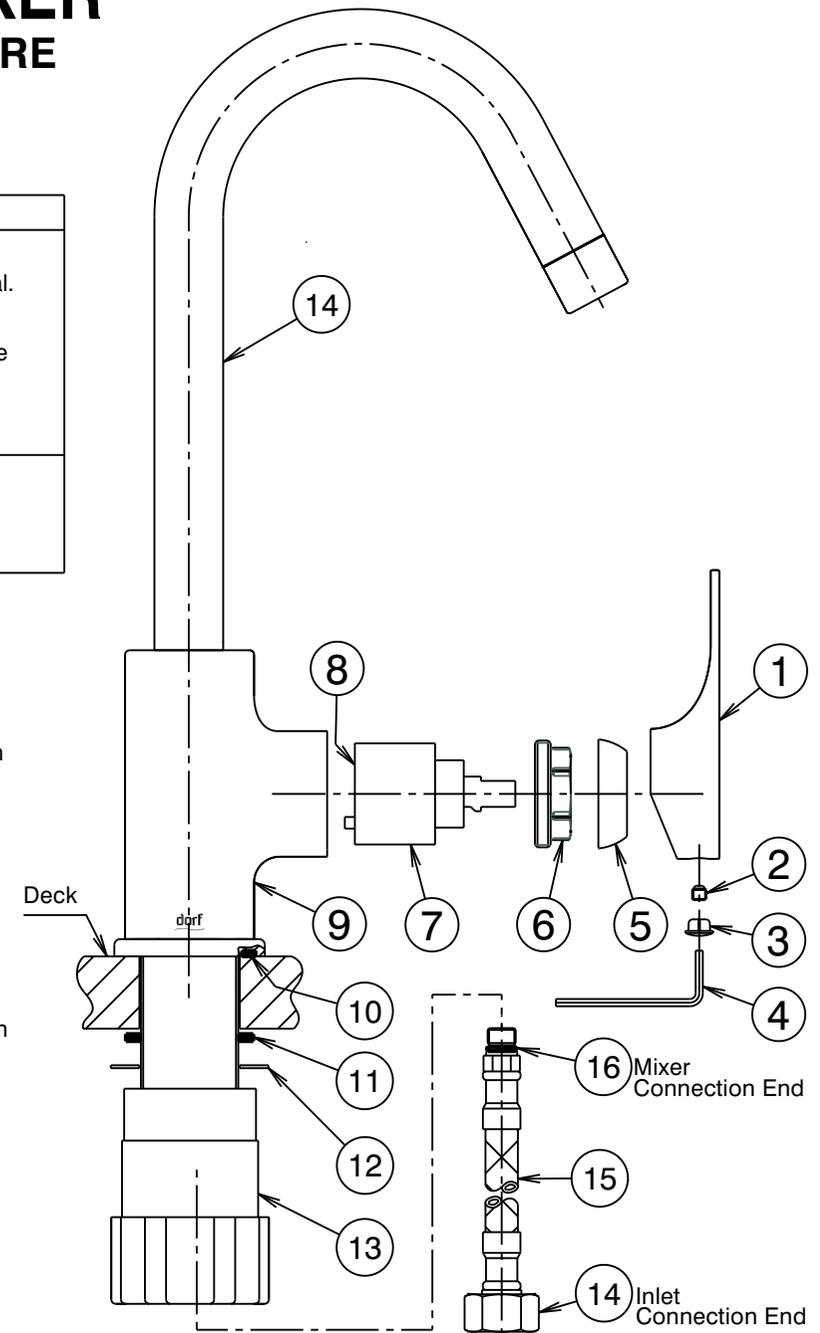

Fig.1
- 1) Ensure seal (10) is installed into groove in base of body (9).
- 2) *Flexible Tail Mixer Connections:* Apply suitable lubricant to 'O' rings (16). Fit flexible tail (15) (with red indication) into hole marked with a Red Dot in underside of mixer body (9). Hand tighten the tail, ensuring the 'O' ring (16) has fully entered the sealing bore to provide a watertight joint. Fit other flexible tail (with blue indication) into remaining hole in a similar manner.
- 3) Insert the inlet connection end (14) of each flexible tail (15) through the hole in the deck. Insert threaded tail of mixer (9) into deck hole, fit rubber washer (11), followed by metal washer (12), over the threaded tail of the mixer (9) as shown (Fig. 1). Screw on nut (13) and tighten firmly by hand to secure the mixer to the deck.
- 4) *Flexible Tail Inlet Connections:* Connect the flexible tails (15) to the hot and cold isolating stop taps, hand tighten the connecting nut (14) until rubber cone contacts the sealing face of the connection end, then tighten a further one turn to provide a watertight joint.